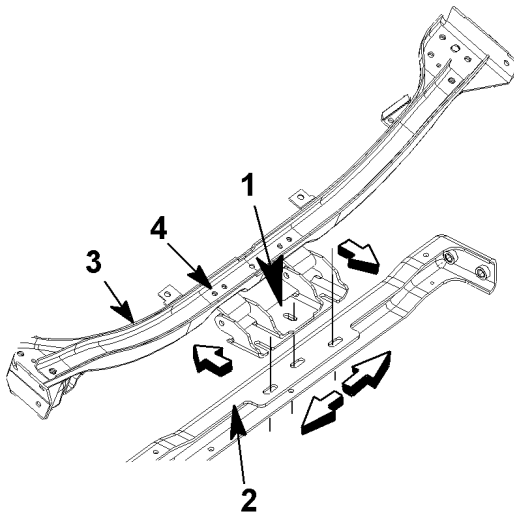

Figure 37 Hood Hinge Adjustment
2. To adjust hood forward and back (reference Figure 37), loosen the hinge mounting bolts at the mounting plate on the front cross member.